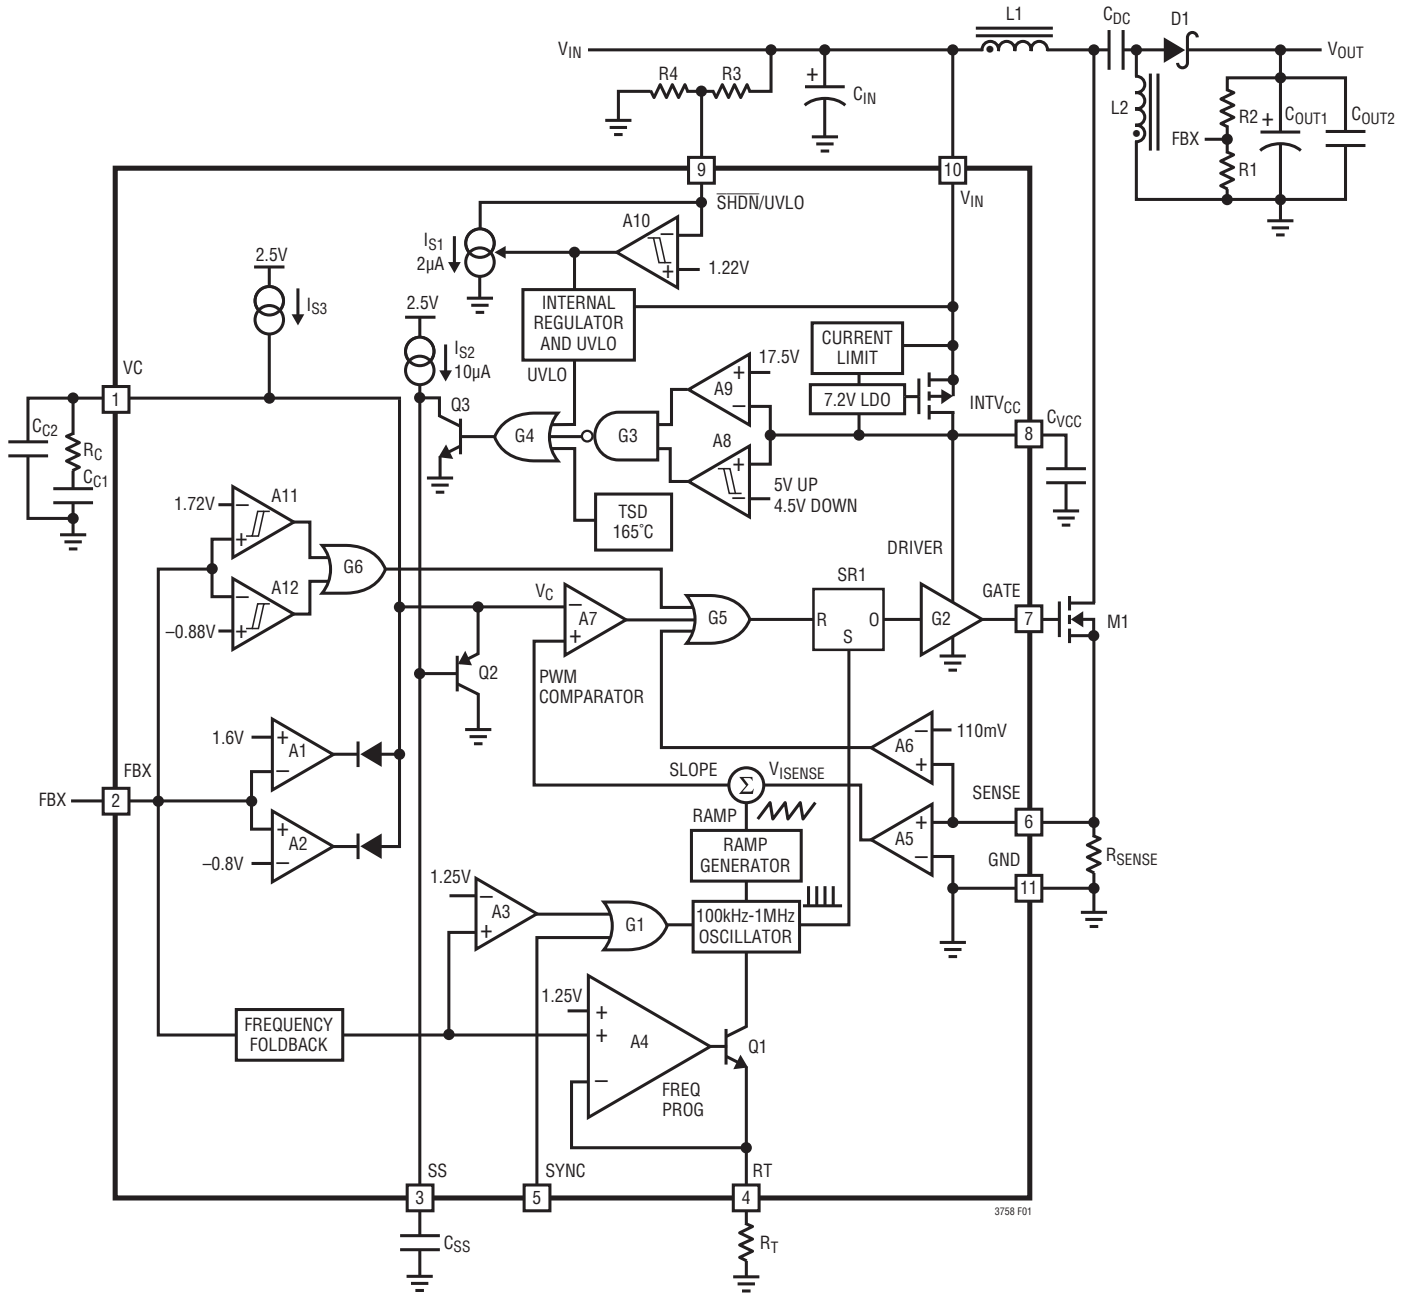

Figure 1. LT3758 Block Diagram Working as a SEPIC Converter
The LT3758 uses a fixed frequency, current mode control scheme to provide excellent line and load regulation. Operation can be best understood by referring to the Block Diagram in Figure 1.
The LT3758 is capable of generating either positive or negative output voltage with a single FBX pin. It can be configured as a boost, flyback or SEPIC converter to generate positive output voltage, or as an inverting converter to generate negative output voltage. When configured as a SEPIC converter, as shown in Figure 1, the FBX pin is pulled up to the internal bias voltage of 1.6V by a voltage divider (R1 and R2) connected from  $V_{OUT}$  to GND. Comparator A2 becomes inactive and comparator A1 performs the inverting amplification from FBX to VC. When the LT3758 is in an inverting configuration, the FBX pin is pulled down to -0.8V by a voltage divider connected from  $V_{OUT}$  to GND. Comparator A1 becomes inactive and comparator A2 performs the noninverting amplification from FBX to VC.
The purpose of this current is to allow the user to program the rising hysteresis. The Block Diagram of the comparator and the external resistors is shown in Figure 1. The typical falling threshold voltage and rising threshold voltage can be calculated by the following equations:
An internal, low dropout (LDO) voltage regulator produces the 7.2V INTVCC supply which powers the gate driver, as shown in Figure 1. The LT3758 contains an undervoltage lockout comparator A8 and an overvoltage lockout comparator A9 for the INTVCC supply. The INTVCC undervoltage (UV) threshold is 4.5V (typical), with 0.5V hysteresis, to ensure that the MOSFETs have sufficient gate drive voltage before turning on. The logic circuitry within the LT3758 is also powered from the internal INTVCC supply.
The choice of operating frequency may be determined by on-chip power dissipation, otherwise it is a trade-off between efficiency and component size. Low frequency operation improves efficiency by reducing gate drive current and MOSFET and diode switching losses. However, lower frequency operation requires a physically larger inductor. Switching frequency also has implications for loop compensation. The LT3758 uses a constant-frequency architecture that can be programmed over a 100kHz to 1000kHz range with a single external resistor from the RT pin to ground, as shown in Figure 1. The RT pin must have an external resistor to GND for proper operation of the LT3758. A table for selecting the value of  $R_T$  for a given operating frequency is shown in Table 1.
The output voltage  $V_{OUT}$  is set by a resistor divider, as shown in Figure 1. The positive and negative  $V_{OUT}$  are set by the following equations:
The LT3758 addresses this mechanism with the SS pin. As shown in Figure 1, the SS pin reduces the power MOSFET current by pulling down the VC pin through Q2. In this way the SS allows the output capacitor to charge gradually toward its final value while limiting the start-up peak currents. The typical start-up waveforms are shown in the Typical Performance Characteristics section. The inductor current  $I_L$  slewing rate is limited by the soft-start function.
the input voltage, load current, etc.). To compensate the feedback loop of the LT3758, a series resistor-capacitor network is usually connected from the VC pin to GND. Figure 1 shows the typical VC compensation network. For most applications, the capacitor should be in the range of 470pF to 22nF, and the resistor should be in the range of 5k to 50k. A small capacitor is often connected in parallel with the RC compensation network to attenuate the VC voltage ripple induced from the output voltage ripple through the internal error amplifier. The parallel capacitor usually ranges in value from 10pF to 100pF. A practical approach to design the compensation network is to start with one of the circuits in this data sheet that is similar to your application, and tune the compensation network to optimize the performance. Stability should then be checked across all operating conditions, including load current, input voltage and temperature.